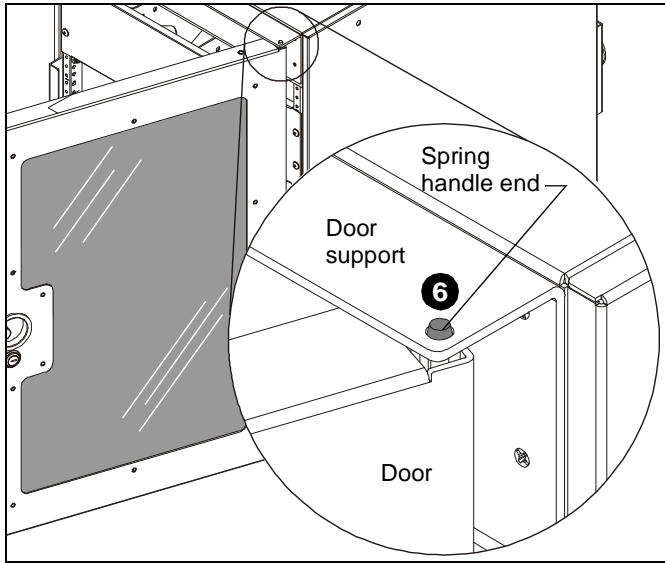

Figure 5
6. Insert door into rack, aligning the spring handle ends with the holes in the door support at top and bottom of rack. (See Figure 5)